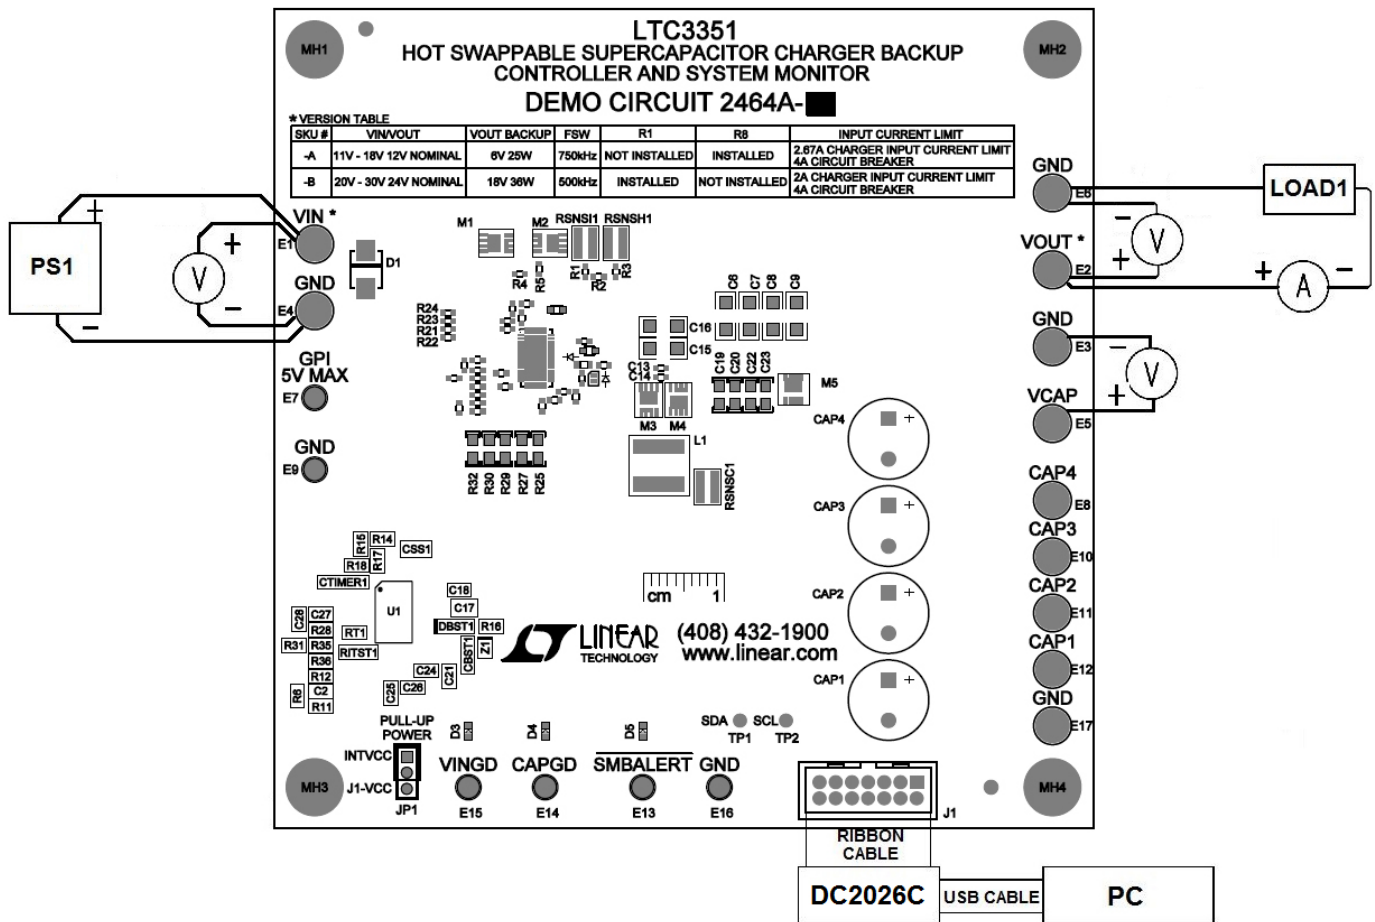

Figure 4. Proper Measurement Equipment Setup
Obtain and connect a DC2026C board to the DC2464A board. Use short twisted pair leads for the power connections and start with the LOAD and the power supply OFF. Refer to Figures 4 and 5 for the proper measurement and equipment setup and follow the procedure below.
6. With power off, connect the appropriate supply, 0V to 20V (or 30V), 25W (or 36W) supply between the VIN and GND terminals for the DC2624A-A or DC2624A-B as shown in Figure 4.